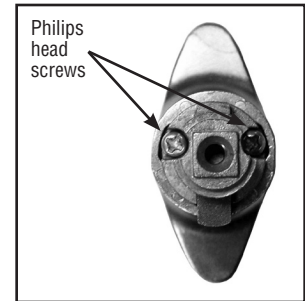

Figure 8
8. Replace the two philips head screws. (Fig. 8)